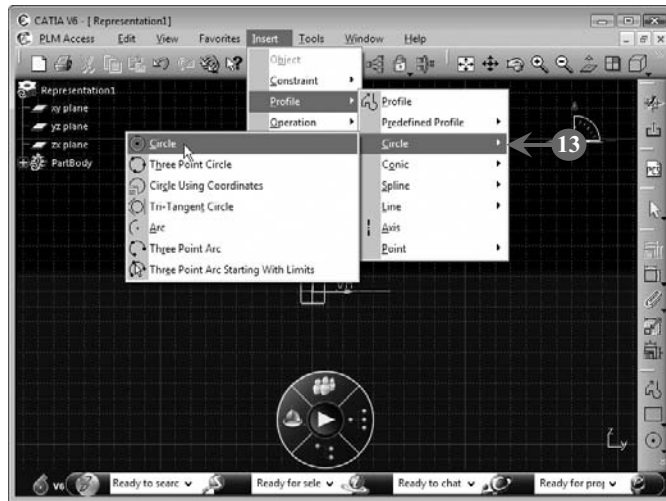

FIGURE 5.72
The Sketcher workbench is displayed with the  $yz$ -plane as the sketching plane (**Figure 5.72**).
13. Select **Insert > Profile > Circle > Circle** from the menu bar to draw a circle, as shown in Figure 5.72: